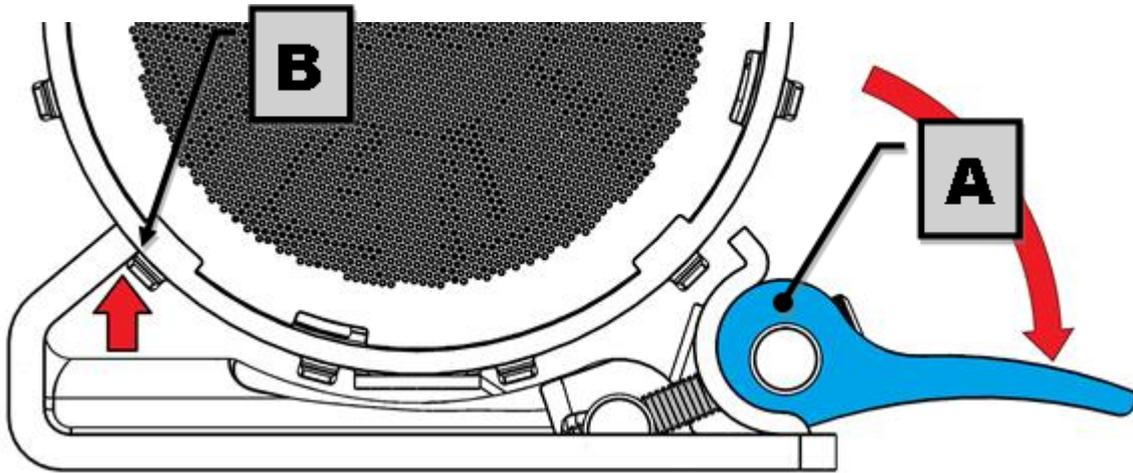

Figure 2. Compressor sitting in unlocked cam-clamp
- Open the cam-clamp (A), then place the compressor into the clamp in the desired rotational position with the rigid edge of the mount bracket against one of the ribs of the compressor (B) as shown in Figure 2.